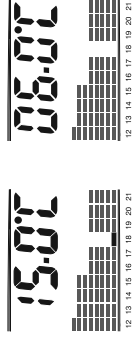
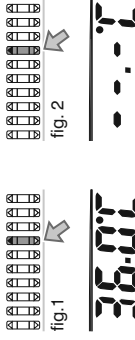

fig. 1
fig. 2
Decreasing the temperature in Winter mode ❄️ until **15.0°C** is reached (ex. in fig. 1), when pressed again the antifreeze temperature will appear **05.0°C** (ex. in fig. 2). If the antifreeze is switched off three dashes **- - -** will appear (see paragraph 8.9).
- 1*) Press the function button **C** the display shows Ch (hour counter) preceded by the number of operating hours and minutes of the current day (fig. 1). To display the number of operating hours and minutes of any day (only for the weekly model), press the corresponding button (fig. 2).